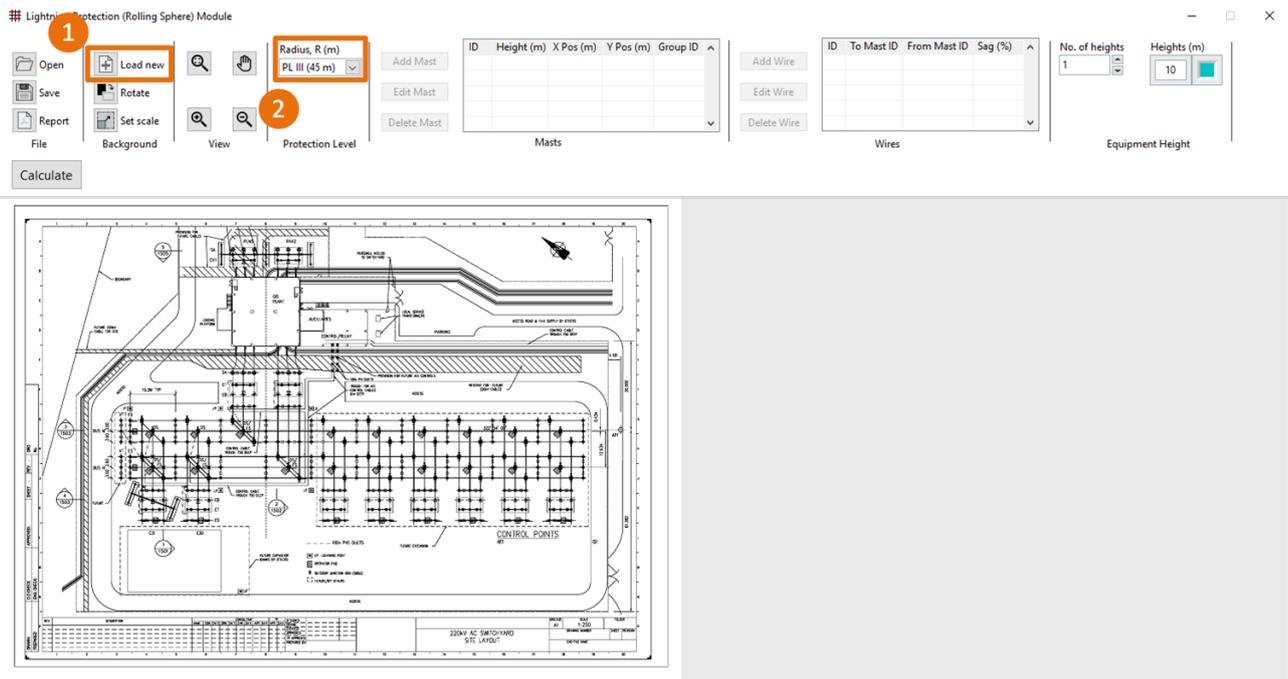

Figure 2 – Loaded background with a PDF schematic
- ① Once the module has appeared, you can upload a PDF drawing by clicking on the **Load new** button. Figure 2 demonstrates this functionality using a 220 kV switchyard schematic as an example.
- ② The Lightning Protection Module provides the option of selecting your desired Protection Level (PL) ranging from level 1 (20 m) to level 4 (60 m). A custom rolling sphere radius can also be entered under the **User defined** option in the **Radius, R(m)** dropdown box. It is common to consider that PL III using a sphere radius of 45 m provides ‘standard’ protection [1]. PL I and II with a sphere radius of 20 m and 30 m provides higher degrees of protection and therefore these protection levels will require a considerably greater number of air terminals.